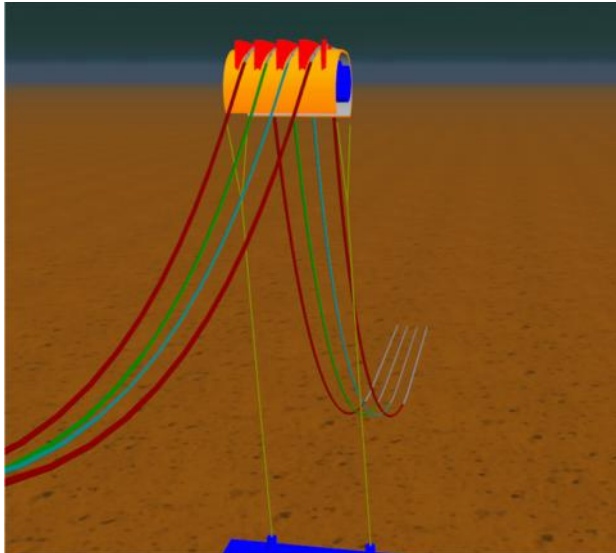

Figure 2-1: Mid Water Arch Model
- J Mid-water arch models - see Figure 2-1. Elastic Solids are used to model the contact surface of the arch body, as well as the guttering within which the risers or umbilicals lie.